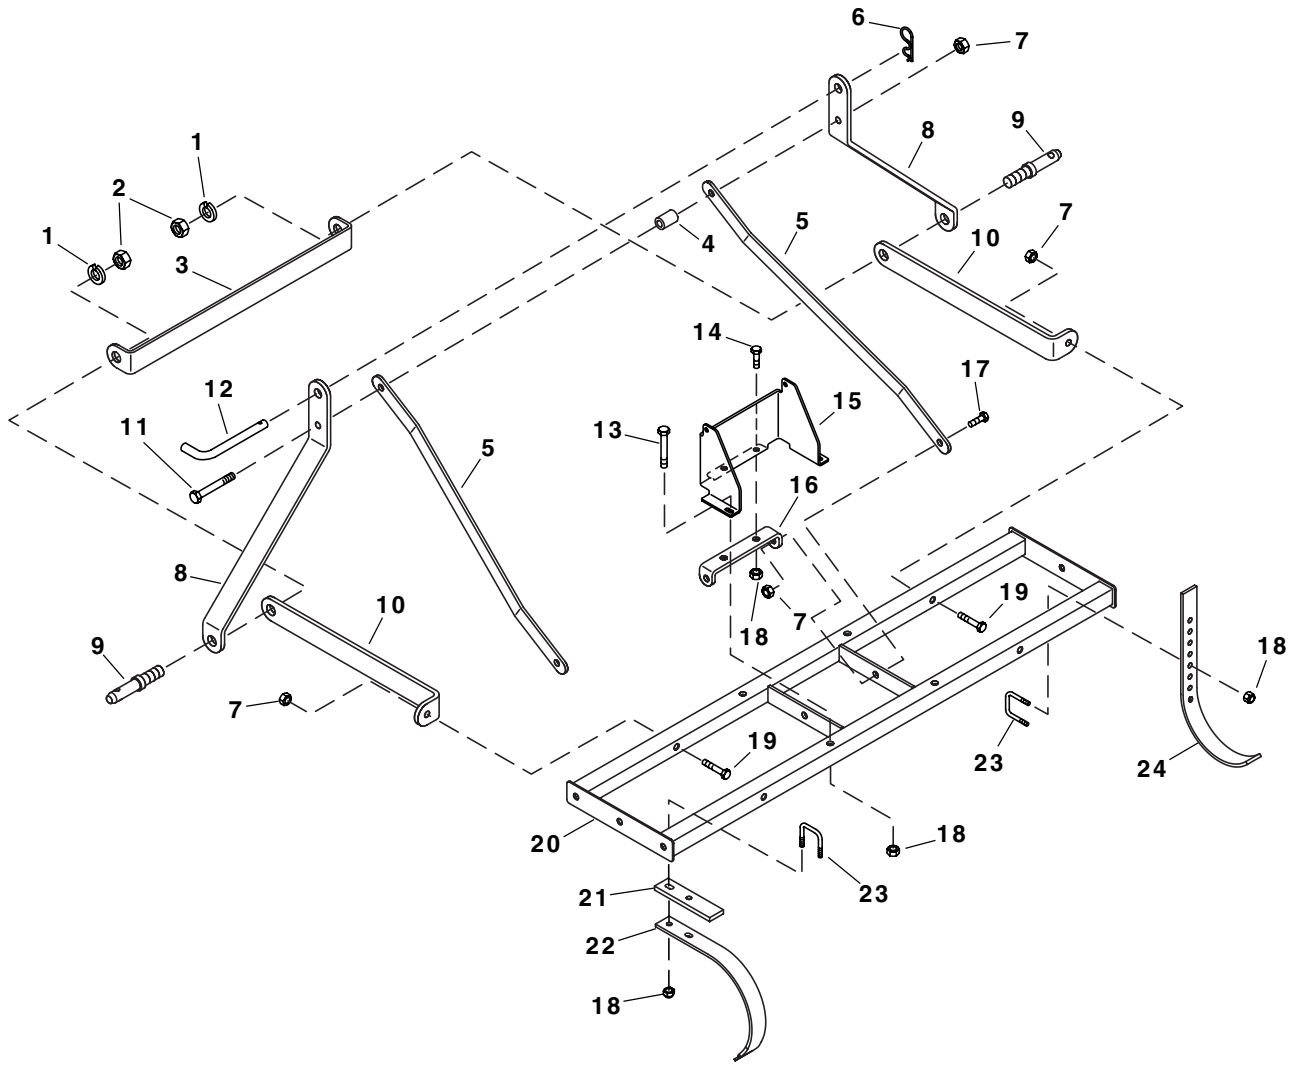

**FIGURE 8**
2. The cultivator can be set for various depths of cultivation. To change the cultivation depth, raise or lower the two depth gauge bars located on the back of the frame assembly as shown in figure 8.